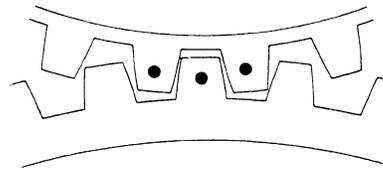

FIG. 13
**56. TO REPLACE CAMSHAFT AND TIME ENGINE** Fig. 13